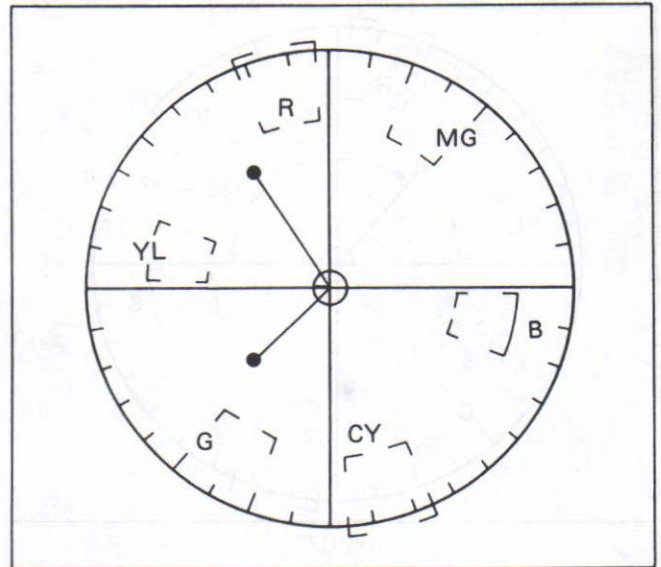

Fig.C30
- (1) Aim the camera at the colour chart. (colour bar).
- (2) Set the horizontal picture frame (H size) to 40usec, and memorize the level of yellow part.
- (3) Set the horizontal picture frame to 16usec.
- (4) In case that the level of yellow part is more than 50% compared with the yellow level of when horizontal picture frame is 40 usec : Adjust the VR309 so that the level of yellow becomes 50% as shown in Fig. C30.
- (5) In case that the level of yellow part is already less than 50% of when the horizontal picture frame is 40usec: Adjust the VR309 until just before yellow part begins to disappear.
- (1) Set the White balance selector for "AUTO" position.
- (2) Aim the camera at the white chart.
- (3) Supply the video signal to the vectorscope.
- (4) Connect the jumper wire among TP511, TP512 and TP513 to cut the R-Y, B-Y feed back line.
- (5) Set the diffusion plate on to surface of AWT sensor and taping around sensor with black tape so that any light is not entered to sensor from the gap between sensor and diffusion plate.
- (6) Adjust the VR525 and VR526 so that the colour vectors move to centre of screen on vector scope. (Refer to Fig. C30)